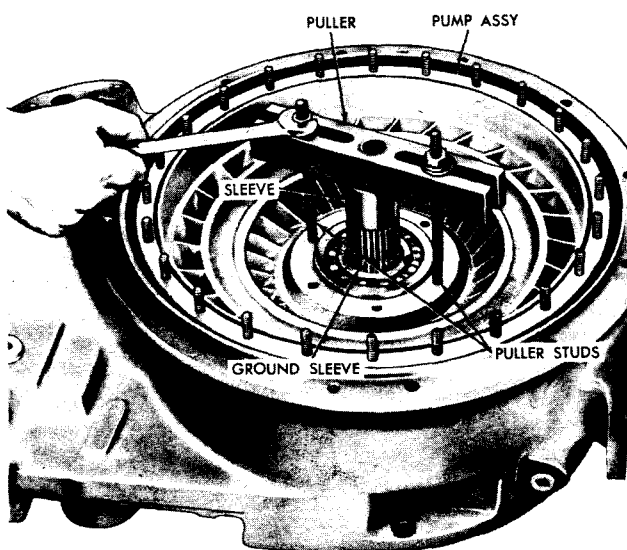

Fig. V-13. Removing converter pump assembly from ground sleeve
(5) Install a steel sleeve over the turbine shaft and against the front of the converter ground sleeve. Install a puller onto the steel sleeve. Then, using two studs, nuts, and flat washers, pull the converter pump assembly from the ground sleeve by tightening the nuts evenly (fig. V-13).
Note: The steel sleeve must have a minimum length of 1 3/4 inches (44.5 mm), a minimum inside diameter of 1 5/16 inches (33.4 mm) and a maximum outside diameter of 1 3/4 inches (44.5 mm). The studs must be 5/16 inch (8 mm) in diameter and have a minimum thread length of 1/2 inch (13 mm) at one end. The overall length must be sufficient to install as shown in fig. V-13. The threads at the upper ends of the studs must be of sufficient length to allow a minimum nut travel of 1 1/4 inch (31.7 mm) when the nuts are tightened. Threads are 5/16-24.